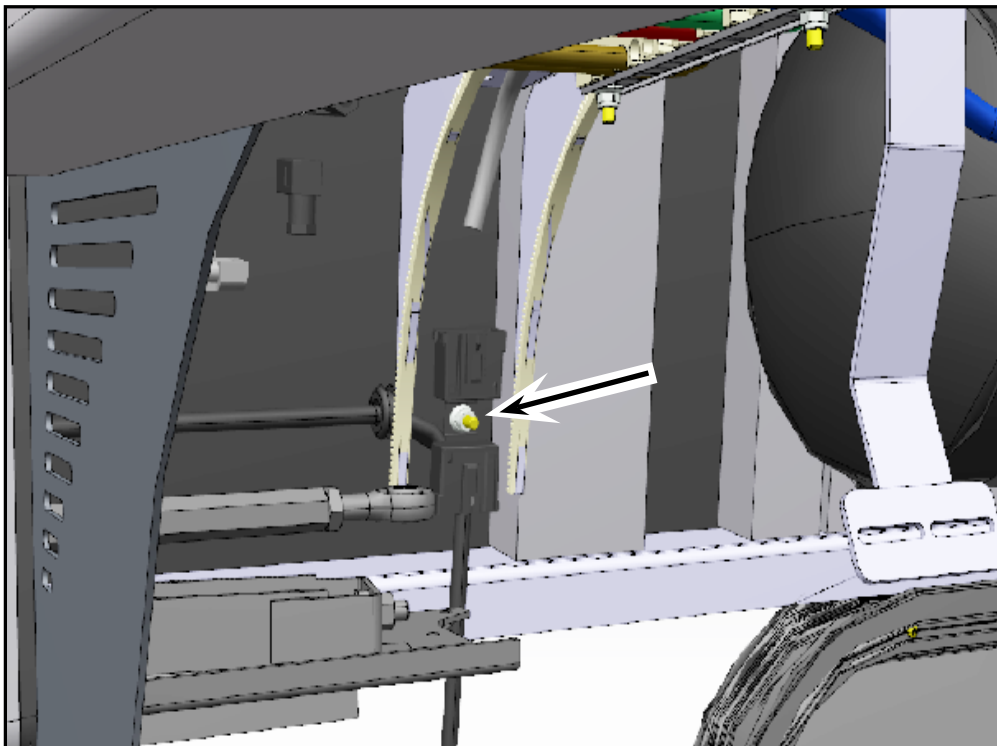

Figure 9 - Cut the Stud
- 1.20. If there is a ground stud in the area, cut it. See Figure 9.
- 1.29. Install the door mechanism rod to the top of the shaft, torque to 13.3 lb-ft and apply thread locker 9985283 or equivalent and anti-tamper seal. We recommend applying grease N24412 or equivalent to the pivot, if needed. See Figure 9.